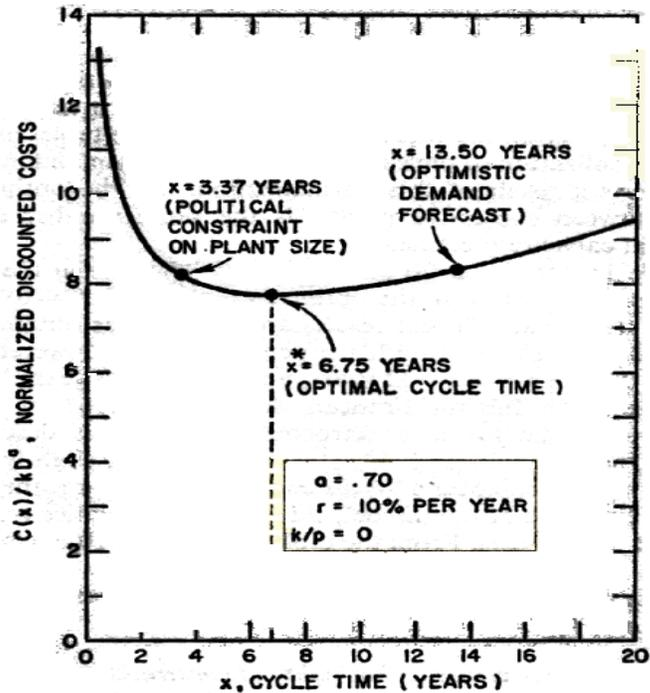

Figure 2.6.—Discounted Cost Function
1. What is the optimal cycle time for capacity addition predicted by the model with initial assumptions as stated above in step 2? Compare your result with Manne's figure 2.6, chapter 2 –found in Appendix at the end of this document.